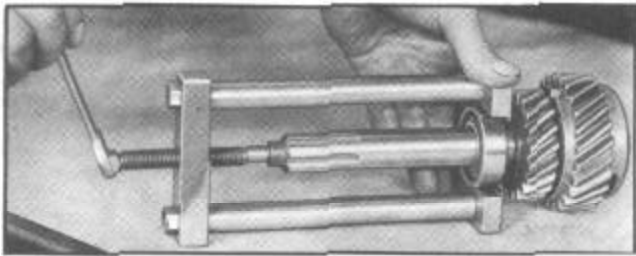

Figure 7--Removing Main Drive Gear Bearing Using Puller J-782
33. Remove main drive gear ball bearing from the gear by using bearing puller tool J-782 as shown in Figure 7.